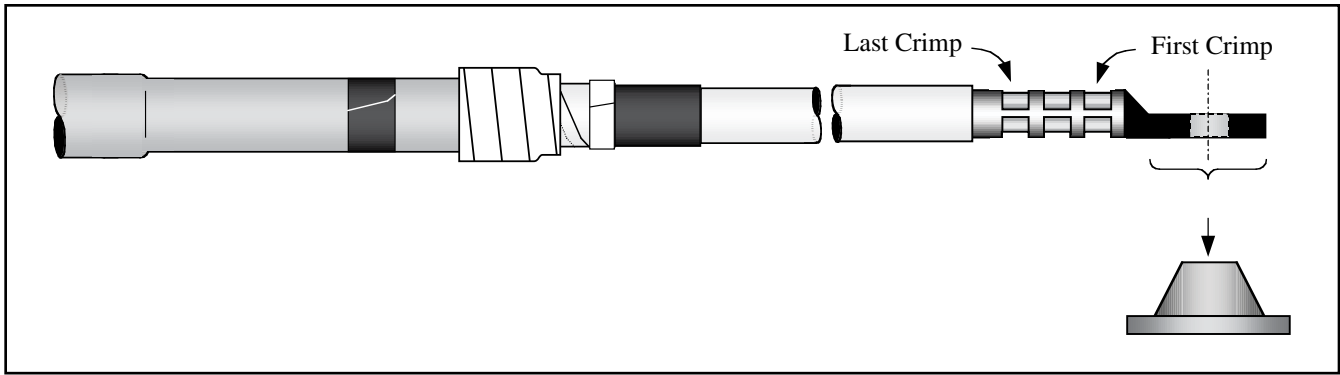

Figure 13
- (b.) **Ensure that each lug face is parallel to equipment bushing or lug connection interface (Figure 13).**
- (c.) Crimp terminal lug according to manufacturer recommendations. Start at the upper end as shown (Figure 13). Remove all traces of oxide inhibitor that may have come out of lug barrel during crimping.